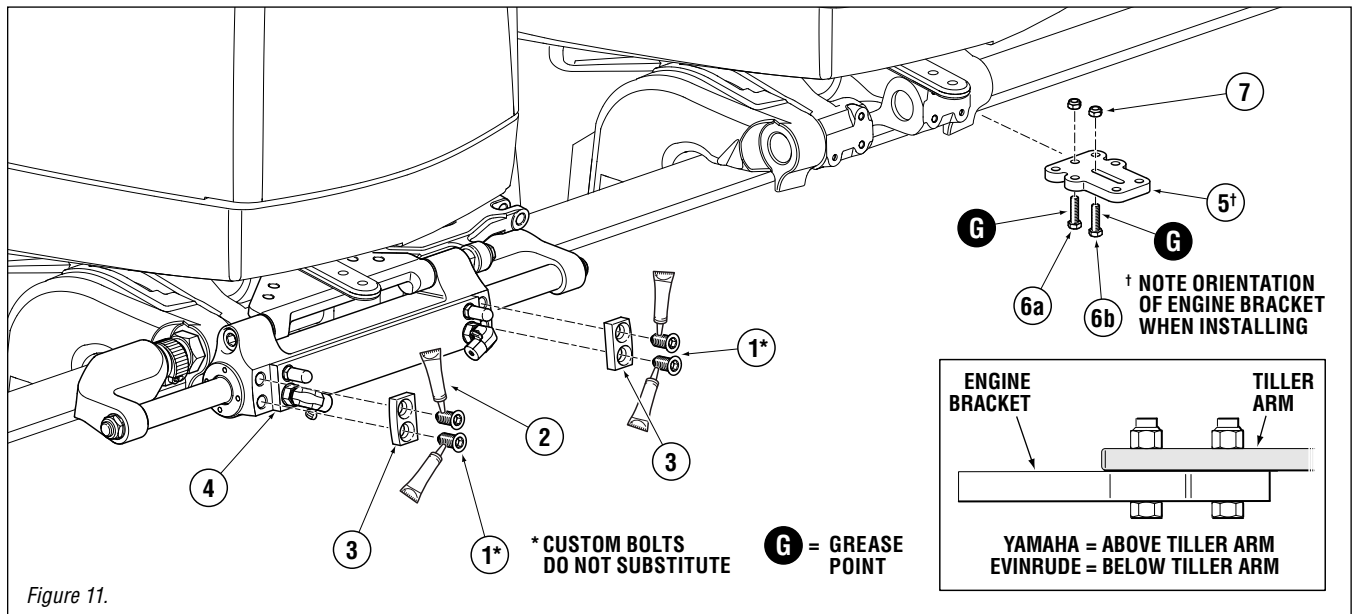

Figure 11.
1. Apply thread locker (item 2) to the threads of item 1.
**NOTE:** Thread locker (item 2) is included with the hardware kit.
**Thread locker MUST be installed onto all four bolts (item 1). Failure to do so may lead to separation of components.**
2. Mount blanking plates (item 3) to both sides of steering cylinder (item 4) as shown in Figure 11.